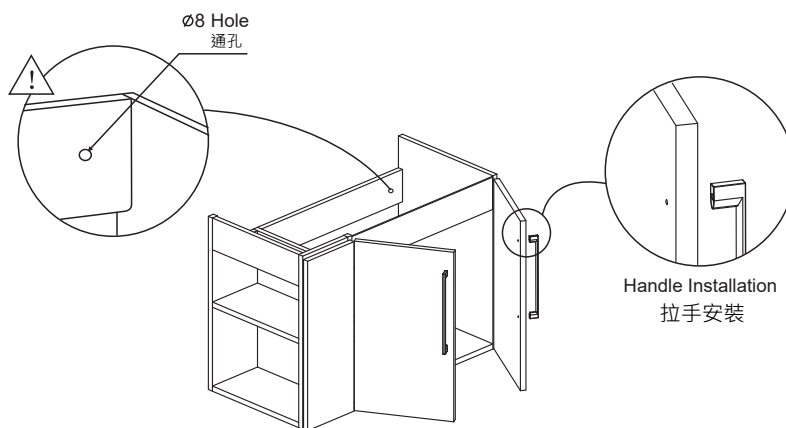

Fig.5
6. Mark the wall through a round hole at the corresponding positions as illustrated Fig 5.
13. Install handle, see Fig.5.